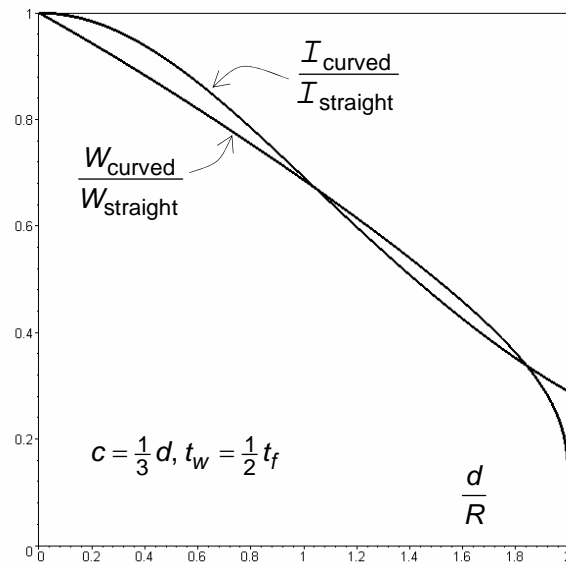

Figure 3. Moment of inertia I and section modulus W as function of the initial curvature
- e** Maple has evaluated the equations and plotted the result (Fig. 3). In frame analysis often a curved beam is approximated by several short straight beams. For what radius R is this a good approximation? Explain your answer.